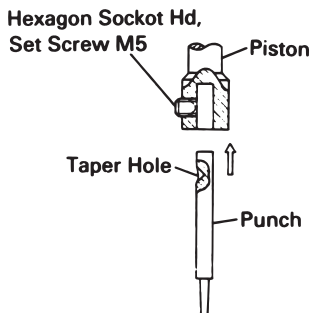

Fig. 9
- (c) Insert the new punch while aligning the taper hole of the punch and the direction of the M5 hexagon socket set screw, then securely tighten the hexagon socket set screw. (see Fig. 9)
(2) Die replacement